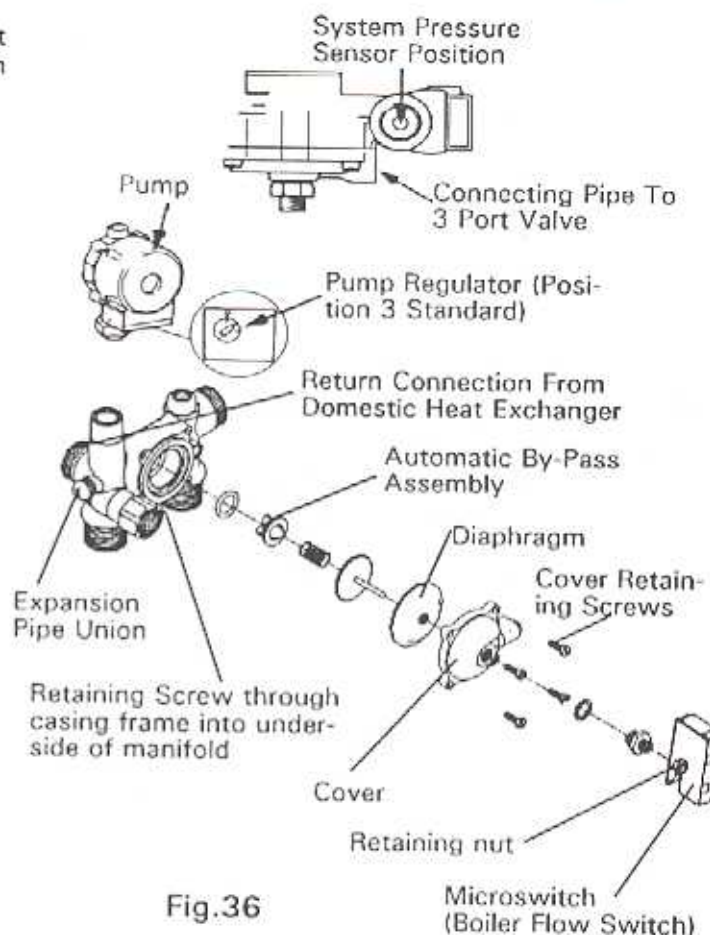

Fig.36
8.16 Heating Manifold Part No 3208 Refer to fig. 36
Refer to fig.36 for location of components.
Refer to fig.36